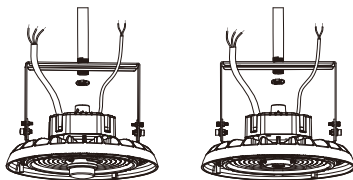

Figure 9
Step2. Insert 1/2" NTP stem into the bracket hole. (Figure 9)